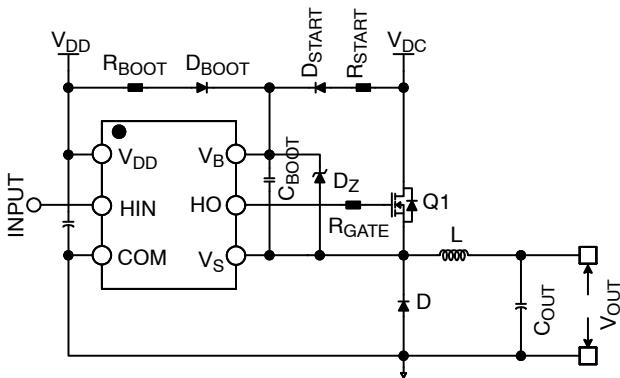

Figure 14. Simple Bootstrap Startup Circuit
In certain applications, like in battery chargers, the output voltage might be present before input power is applied to the converter. Delivering the initial charge to the bootstrap capacitor (CBOOT) might not be possible, depending on the potential difference between the supply voltage (VDD) and output voltage (VOUT) levels. Assuming there is enough voltage differential between input voltage (VDC) and output voltage (VOUT), a circuit comprised of startup resistor (RSTART), startup diode (DSTART), and Zener diode (DZ) can solve the problem, as shown in Figure 14. In this startup circuit, startup diode DSTART serves as a second bootstrap diode used for charging the bootstrap capacitor (CBOOT) at power up. Bootstrap capacitor (CBOOT) is charged to the Zener diode of DZ, which is supposed to be higher than the driver's supply voltage (VDD) during normal operation. The charge current of the bootstrap capacitor and the Zener current are limited by the startup resistor. For best efficiency, the value of startup resistor should be selected to limit the current to a low value, since the bootstrap path through the startup diode is permanently in the circuit.